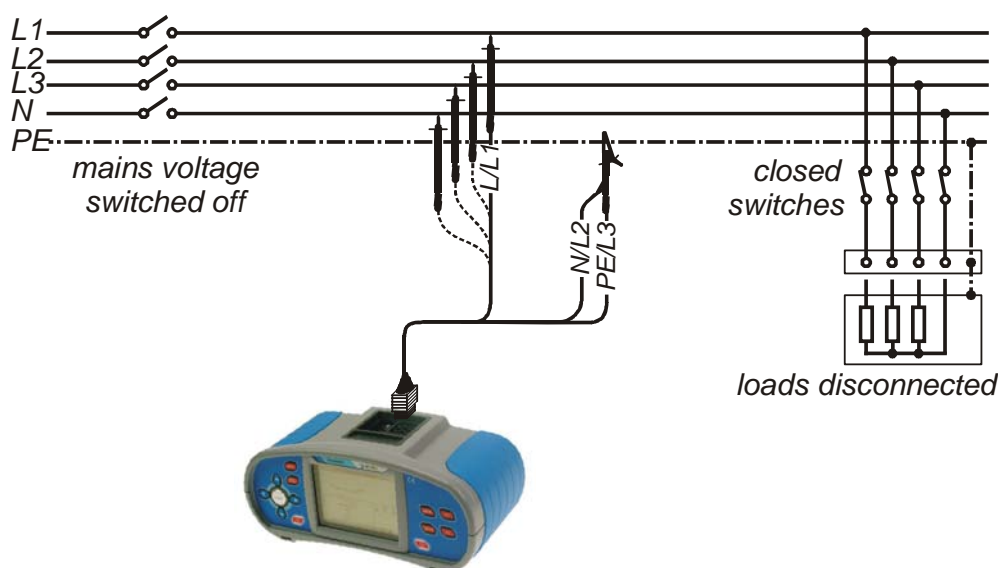

Figure 5.2: Connection of universal test cable for general insulation resistance measurement (TEST: L-PE)
- ❑ **Connect** test cable to the instrument and tested item (see figures 5.2 and 5.3).